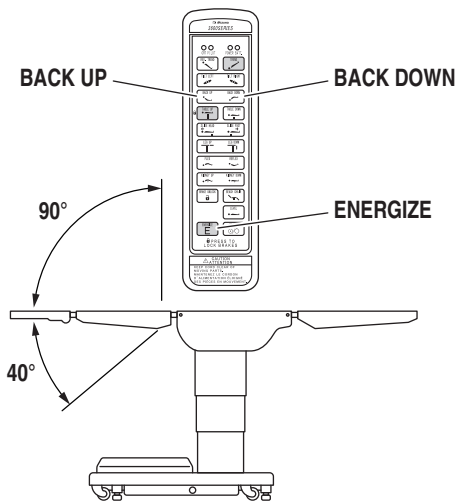

Figure 2-9. Back Section Positioning
d. Back Section To raise the back section, press the ENERGIZE button and then the BACK UP button (figure 2-9). The back section will raise up to 90° above horizontal. To lower the back section, press the ENERGIZE button and then the BACK DOWN button. The back section will go down to 40° below horizontal.